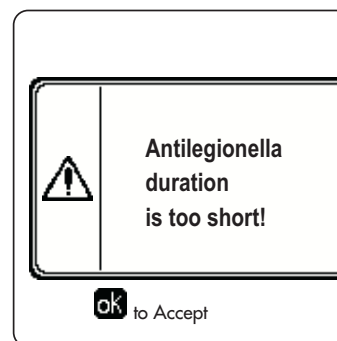

fig. 26- Message Anti-legionella function not completed
- If the **Anti-legionella function** is not carried out correctly, the message shown in fig. 26 is displayed. Even in the presence of this message, the boiler will continue to operate correctly.